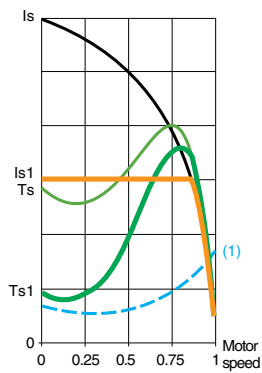

Figure 1
- Figure 1 shows the behavior of the torque in relation to the starting current. Limiting the starting current I_{s1} to a preset value I_{s1} will reduce the starting torque T_{s1} to a value which is almost equal to the ratio of the square of currents I_s and I_{s1} .